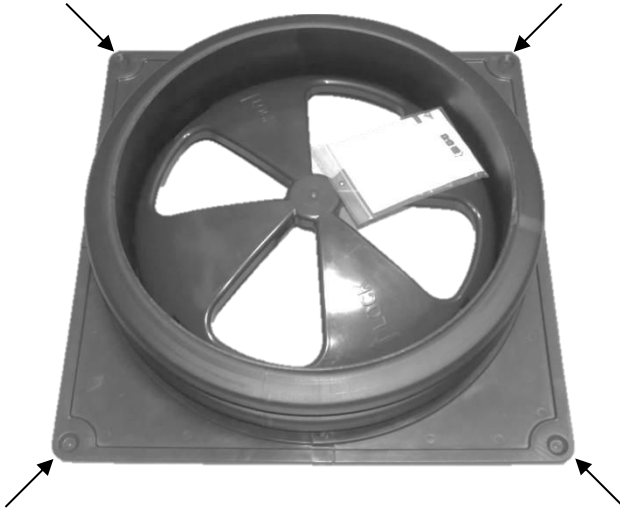

Figure 13: Mounting Base Flange
13.) Drill (4) 5/32" diameter holes through the four corners of the base flange (Fig. 13) at least 2" deep into the tank. If the tank is made of concrete, use a carbide tip masonry bit.
14.) Fasten the base flange to the tank using four (4) provided 3/16" X 1 3/4" blue masonry screws (Fig 13).